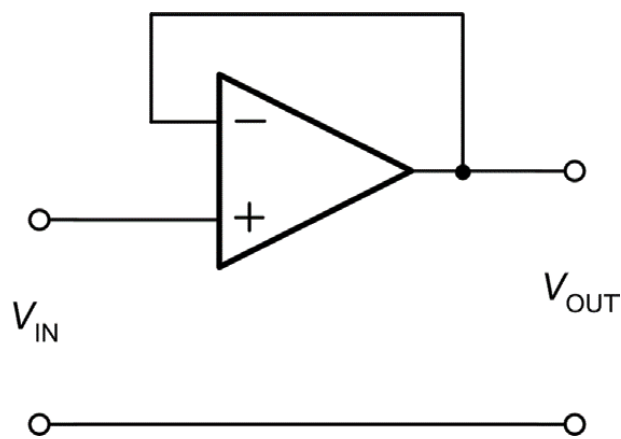

Figure 1.40 A voltage follower
- A voltage follower using an operational amplifier is shown in Fig. 1.40.